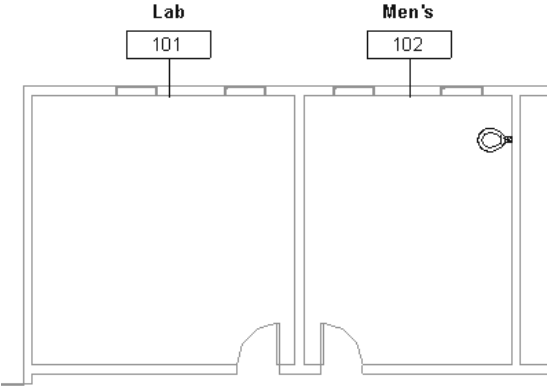

Figure 2-23
- 4. Click along one of the walls to place the fixture, as shown in Figure 2-23.